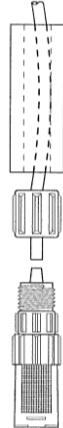

Figure 5: Ceramic-Weighted Strainer
- 5) Referring to Figure 5 slide ceramic strainer weight on suction tubing first then remove the coupling nut from the strainer and slide onto tubing next. Push the end of the tubing onto the strainer and hand tighten the coupling nut. Hand-tighten only, do not use wrenches. **Note:** Immerse tubing in hot water to soften prior to pushing on fitting.